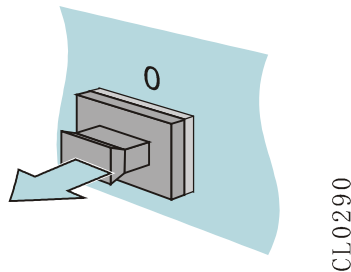

Figure 4-12 Pull out the dust plug
- Step 2: Pull out the dustproof plug on the optical port of the switch, as shown in Figure 4-12.